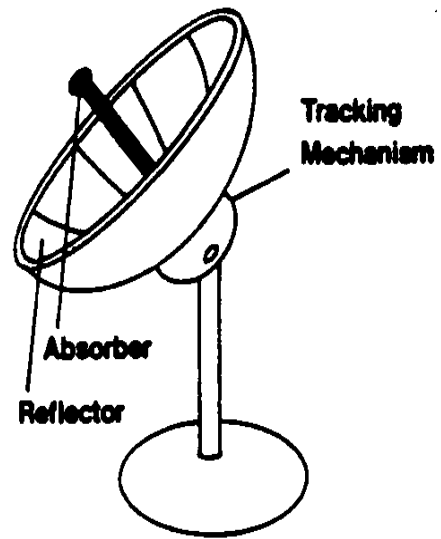

Fig 2: Parabolic Dish Collector¹
| Figure 2 | Parabolic Dish Collector | 2 |
2. Parabolic Dish Collector: This is similar to cylindrical parabolic concentrator except here the focusing is point focusing instead of line focusing. Hence a very high concentration ratio is achieved. The delivery temperature created by this collector is the highest among all the collectors around 600°C. Figure 2 describes the working of Parabolic Dish Collector.